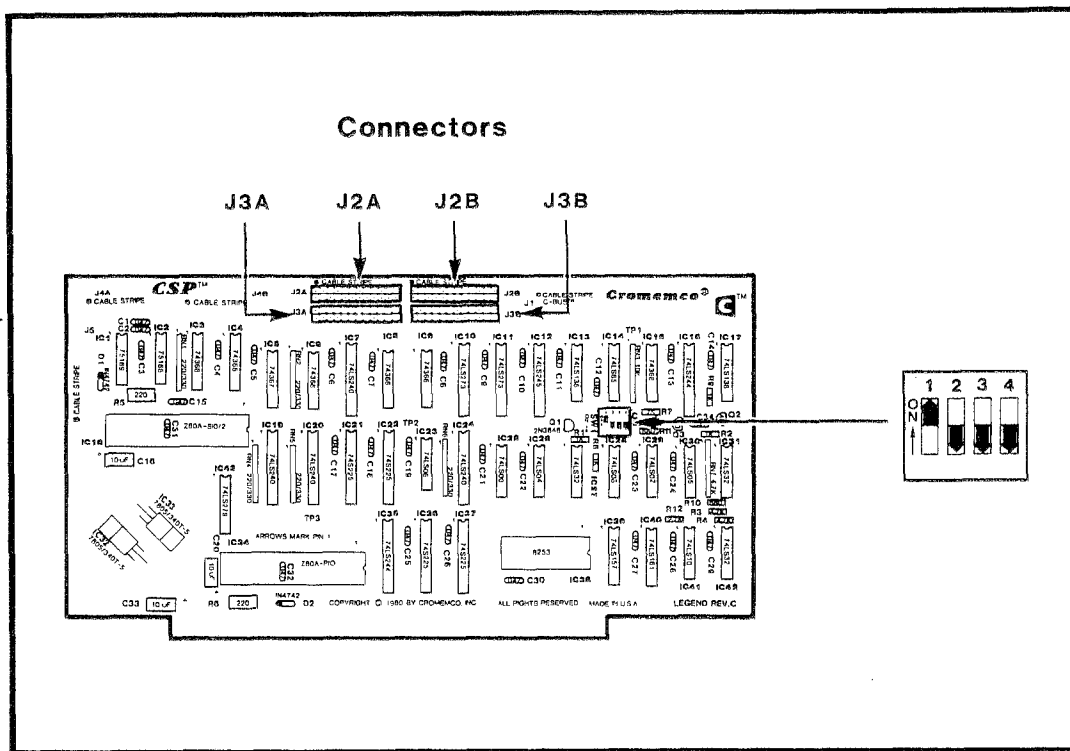

Figure 6-8: CSP SWITCHES
1. Set CSP switch SW-1 to select C-Bus base I/O address 70h by referring to Figure 6-8.
3. Choose four ribbon cables attached to the system rear panel. Align the cable stripe of each with the CSP board legend arrowheads, and attach the 26-pin female connector on the end of the cable to CSP connectors J2A, J2B, J3A, and J3B (see Figure 6-8). Arrange the cables so that the DB-25S connectors for J2A and J2B line up horizontally on the system rear panel, and so that those for J3A and J3B also line up horizontally. Clearly mark the system back panel to indicate the CSP connector associated with each DS-25S socket (e.g., **tp-J2A**, **tp-J2B**, and so on).